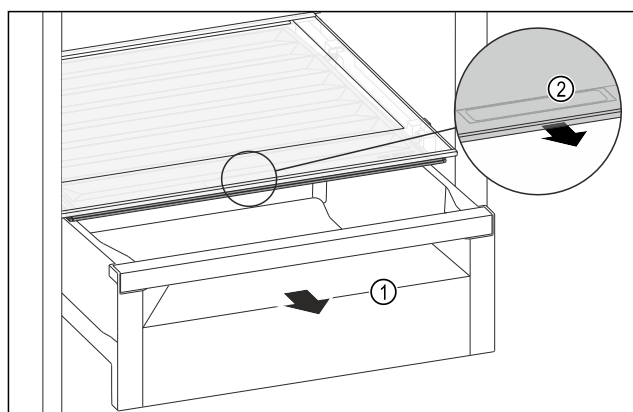

Fig. 144
- ▶ Pull out the drawer Fig. 144 (1).
- ▶ Grip the handle recess Fig. 144 (2) on the lid while pulling the lid forward at the same time.